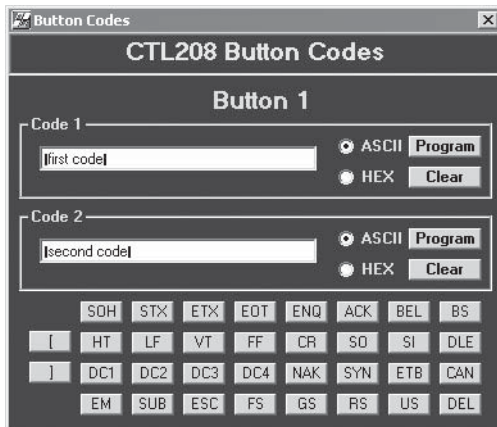

Figure 4-7 — Button Codes window
Click the in the upper right corner of the window to save the timeout value and close the window. The Button Codes window appears (figure 4-7).
- b. If you selected single, press/release, or continuous mode in step 3, the Button Codes window appears (figure 4-7).
6. In the Button Codes window (figure 4-7), enter the desired primary code in the Code 1 window.